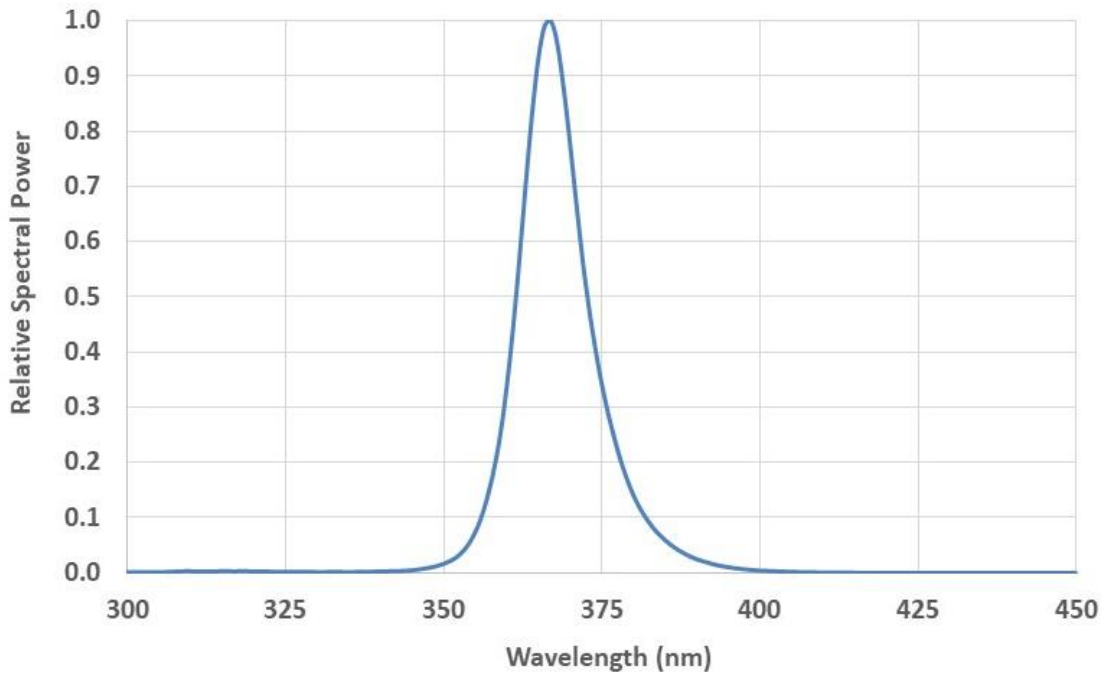

Figure 5: Typical relative spectral power vs. wavelength @ Tc = 25°C.
- Solder conditions per JEDEC 020D. See *Reflow Soldering Profile* Figure 5.